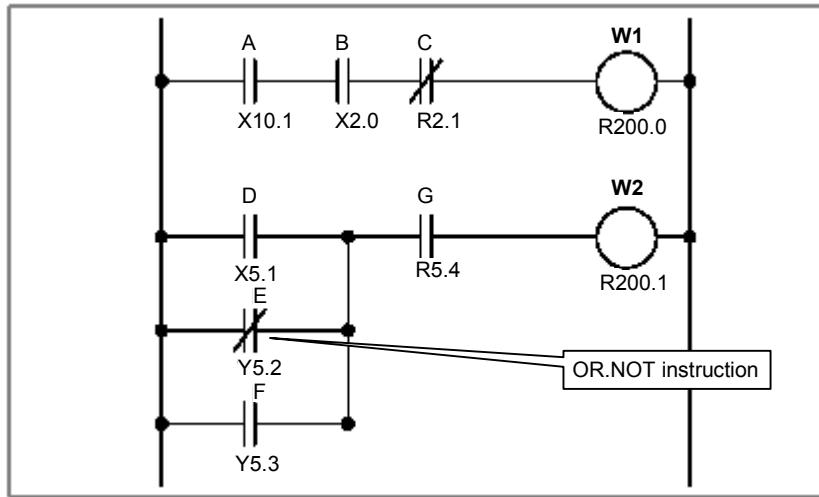

Fig. 4.1.9
- (1) This instruction reverses the status of the signal at the specified address and produces a logical sum.
- (2) For examples of how the OR.NOT instruction is used, see Fig. 4.1.9 and Table 4.1.9.